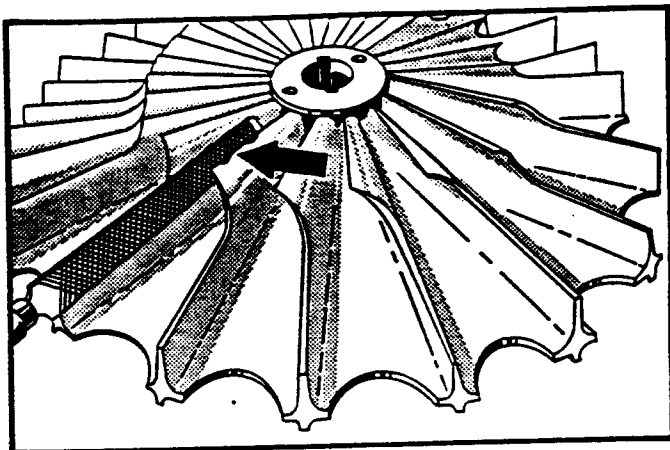

Figure 7. Filing Nicks in Impeller
3. IMPELLER.- The turbosupercharger impeller should be inspected in conjunction with the inspection of the air scoop. Minor nicks or dents may be smoothed off with a No. 2 or 3 file. (See figure 7.) Replace any impeller that has large nicks, dents, or gouges in it.